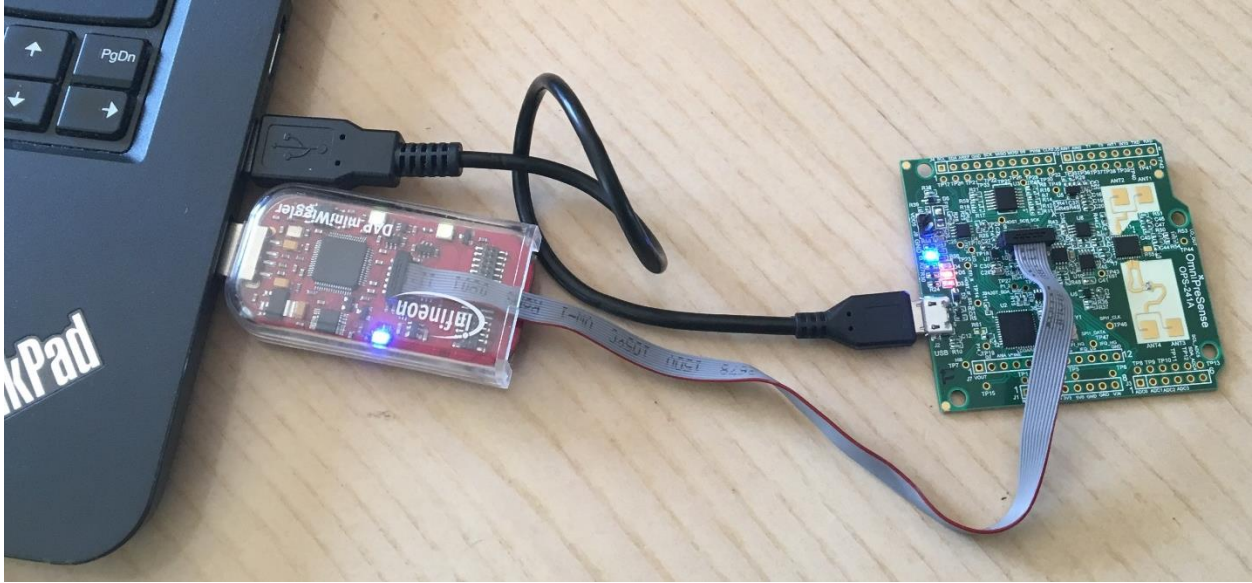

Figure 4. USB and JTAG Connections to PC
**Step 3.** Plug in the USB connector of the JTAG programmer to a USB port on the PC. Plug in a USB micro cable into the OPS241 and the other end into another USB port on the PC (Figure 4). This provides power to the OPS241 during the program update.